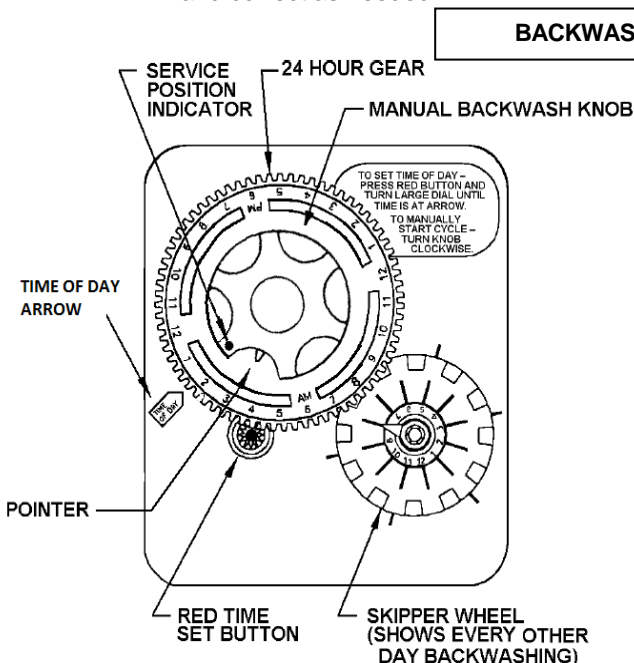
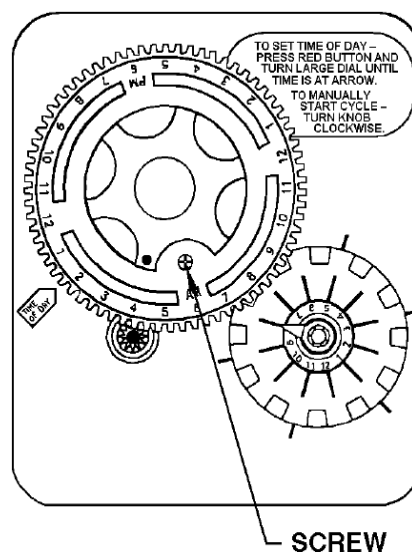

FIGURE 4a: Timer in Service Position
FIGURE 4b: Adjusting Time of Regeneration
Be sure the control valve is in the “Service” position. For O2 models the service indicator should point to the time of day arrow (See figure 4a below).
STEP 12: For the O2 set the Timer Control (Figure 4a) by rotating the Skipper Wheel (Figure 4a) so the red pointer is directly over day 1. Select the days when backwashing will occur by sliding the metal tabs in or out. IN indicates no backwashing will occur on that day, OUT indicates that backwashing will occur on that day. **Factory setting is to initiate backwash every third day.**
STEP 13: Set the current time of day. For the O2 start by depressing the red Time Set Button (Figure 4a) and turning the 24 Hour Gear (Figure 4a) to the desired time (note AM and PM).
- b) Locate three screws (Figure 4b, page 6) behind the Manual Backwash Knob (Figure 4a, Page 6) by pushing the red Time Set Button (Figure 4a, page 6) and rotating the 24 Hour Gear (Figure 4a, page 6) until each screw appears in the cut out portion of the Manual Backwash Knob.
- d) Continue depressing the red Time Set Button and rotate the 24 Hour Gear to expose the Regeneration Time Pointer (Figure 4a, page 6) in the cut out portion of the Manual Backwash Knob. Keep the Regeneration Time Pointer visible in the cut out while rotating only the time plate until the desired time of regeneration (note AM and PM) is aligned with the Regeneration Time Pointer. **NOTE: subtract 136 minutes from the desired time for the start of backwash to determine where the Regeneration Timer Pointer should point.**